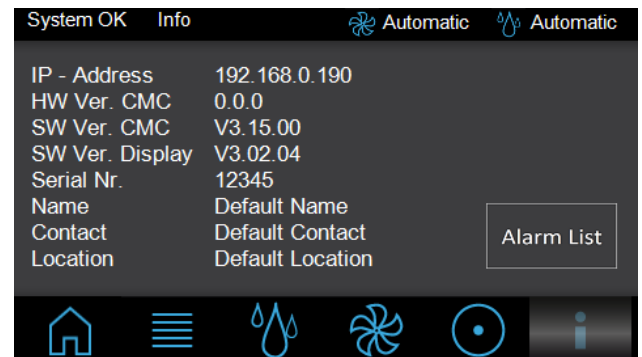

Fig. 72: "Info" screen
- Enter the serial number using the number pad keys. The serial number is displayed on the "Info" screen (fig. 72) under the "Serial No." entry.